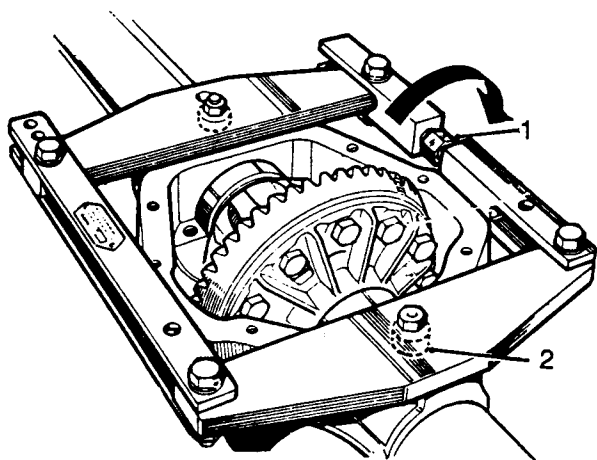

Fig J2.4
- (10) Refer to Fig J2.4. Ensure that the turnbuckle adjuster (1) is free to turn.
- (11) Fit the axle spreader (2) to engage the peg holes. Spreader 18G131C, Adaptor pegs 18G131F.
- (12) Turn the adjuster until all free play between the spreader and casing is taken up, denoted by the adjuster becoming stiff to turn, using a spanner on the adjuster.
- (13) Check that the side members of the spreader are clear of the casing.
- (14) Stretch the casing, rotating the adjuster by one flat at a time, until the differential assembly can be levered out. Do not lever against the spreader; use suitable packing under the levers to avoid damage to the casing.